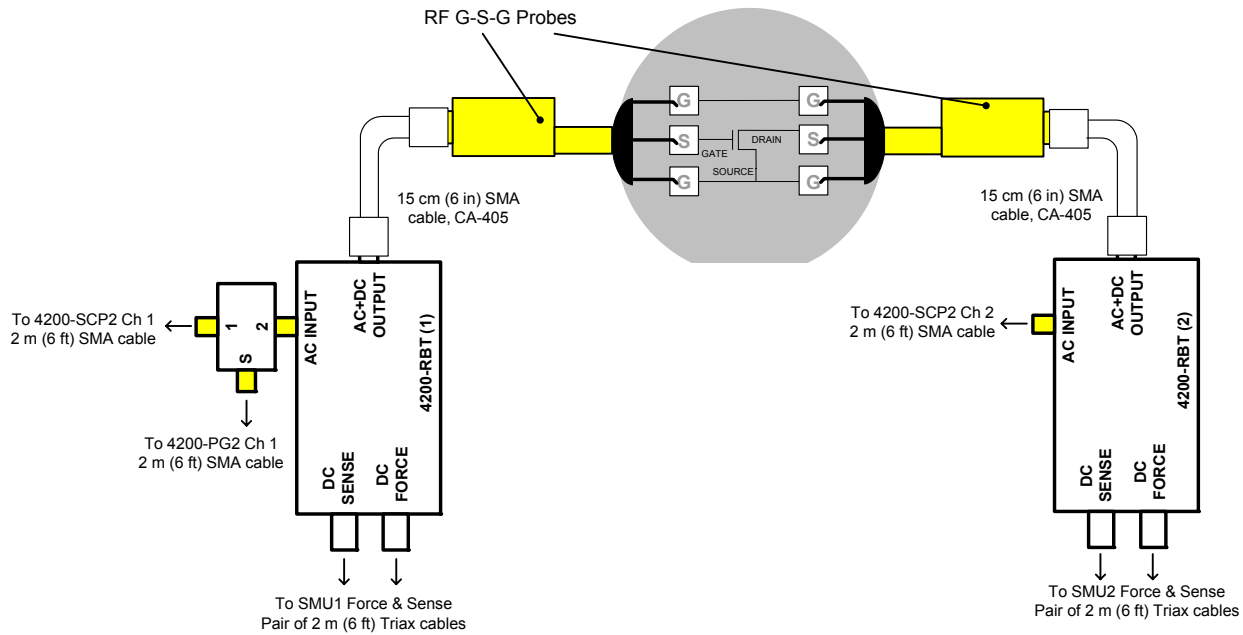

Figure 16. Pulse IV connections from Remote Bias Tees to RF G-S-G probes for RF.
If the device has an RF layout (G-S-G), the Y adapter cables and DC probe manipulators will most likely be insufficient. In the case of RF G-S-G pad layout, do not use the 4200-PRB-C Y cables, just use the shorter SMA cables (6”/15 cm) supplied with the 4200-PIV package to connect directly from the 4200-RBTs to the RF manipulators (Figure 16). Note that the 4200-RBT with the power divider is connected to the Gate.
3. For RF probes, connect the SMA cables from the 4200-RBTs to the RF probe manipulators, as shown in Figure 16. Skip Step 4 and go to Step 5.